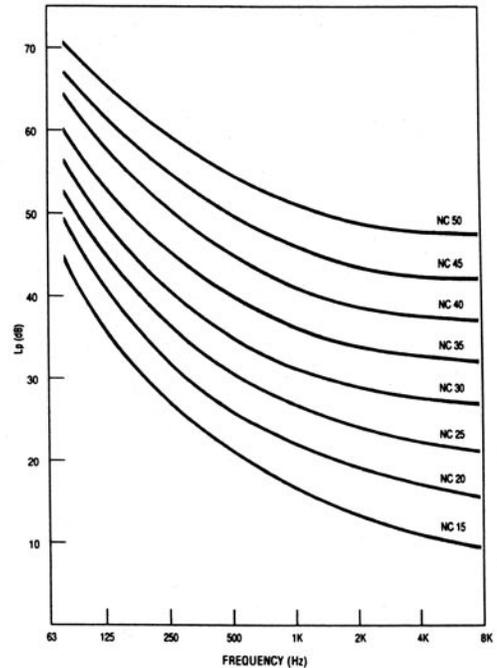

Figure 8: Noise Criterion (NC) curves, octave band data
Acoustical engineers make use of what are called Noise Criterion (NC) curves in attempting to set a noise performance goal for cinemas. The octave band values of these curves are shown in Figure 8. In implementing this data, the acoustical designer settles on a given criterion and then determines the cost and other factors involved in realizing it. Low-noise air handling requires large ductwork and is expensive. Even more likely to be a problem is